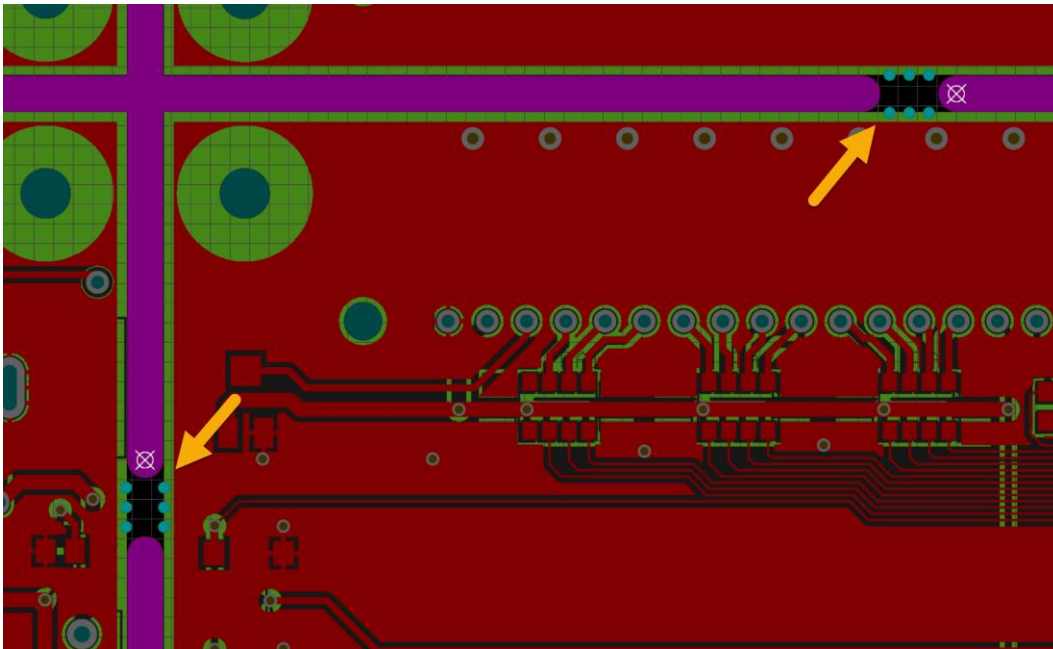

Figure 25. Placement of breakout footprints, snapping reference to track ends
49. With the footprint on your cursor, place it on one of the voids on the inner route tool path as shown in Figure 25.